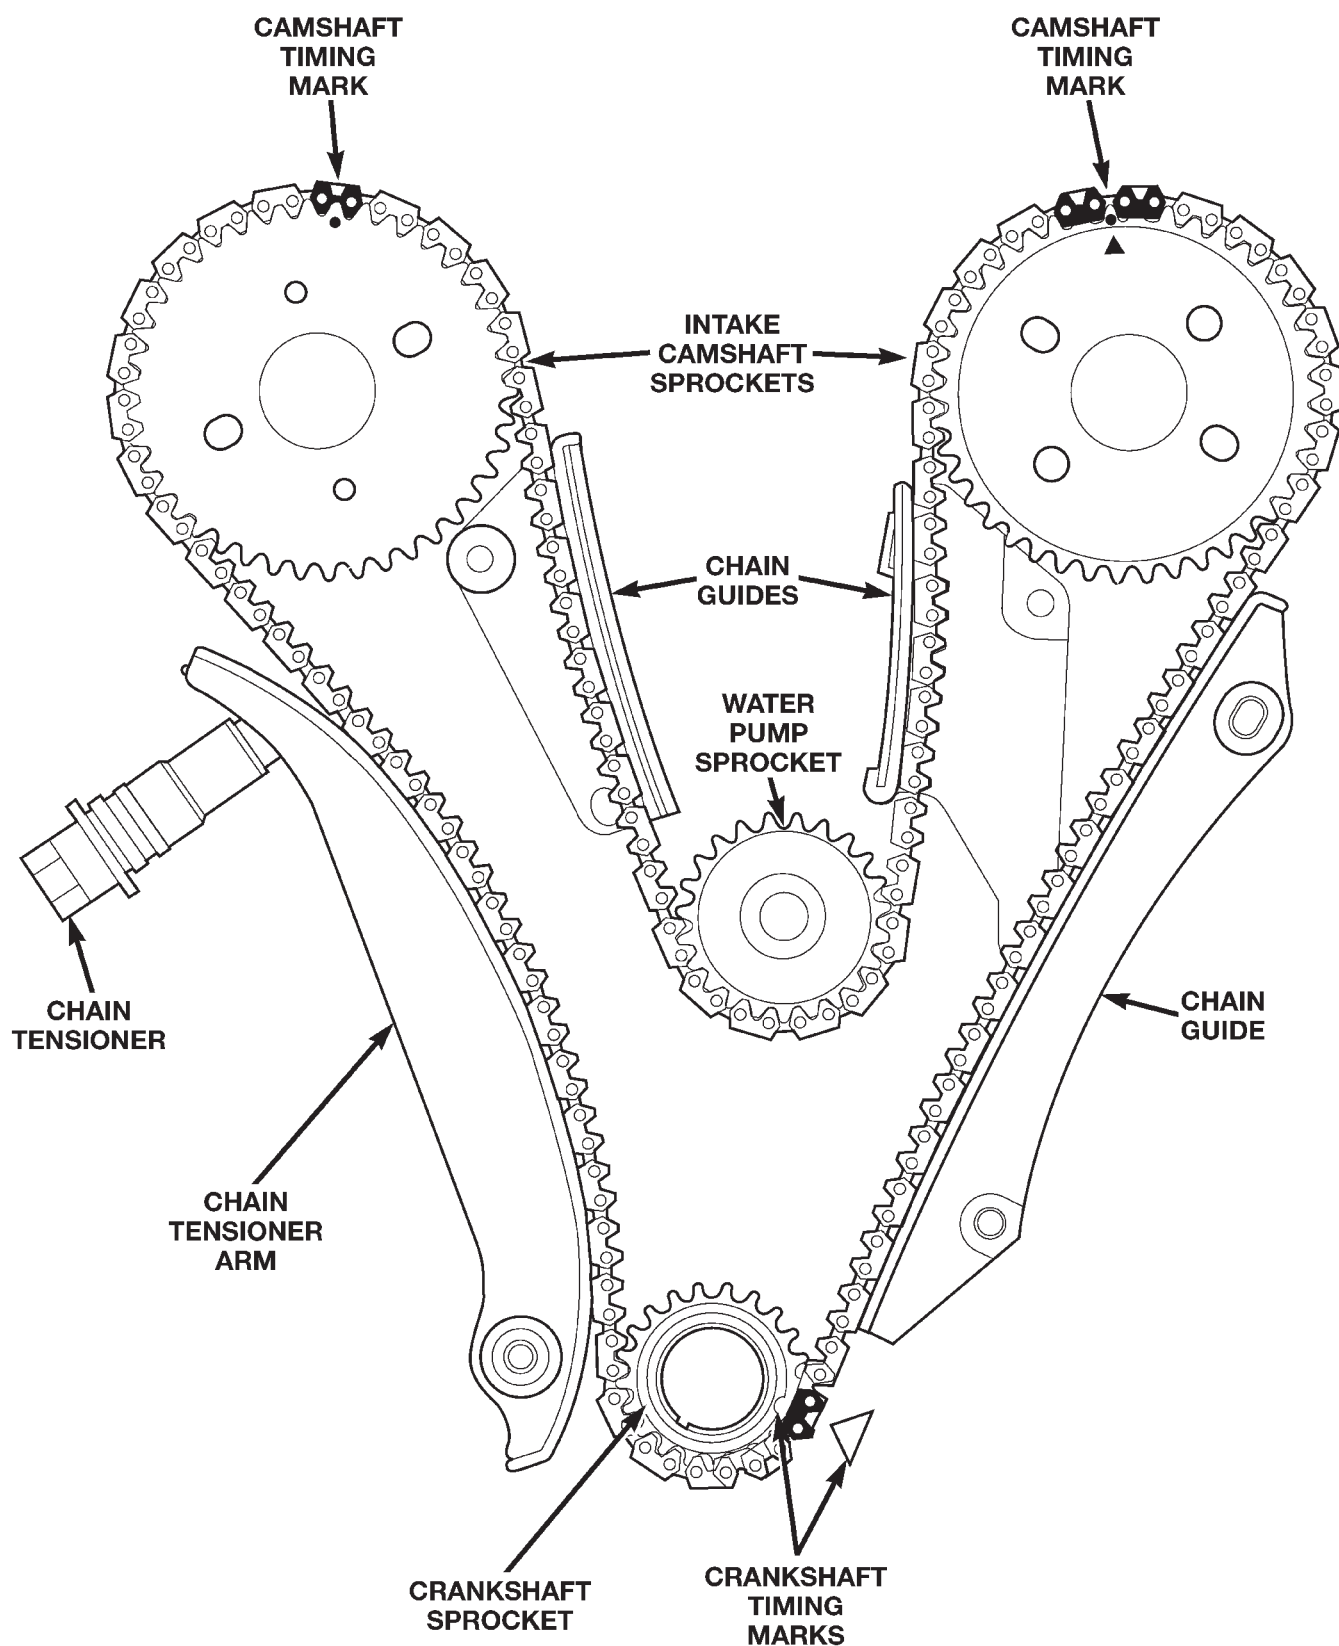

Fig. 55 Primary Timing Chain Marks
(1) Align crankshaft sprocket timing mark to the mark on oil pump housing (Fig. 55).
(2) Place left side primary chain sprocket onto the chain so that the timing mark is located in-between the two plated links on chain (Fig. 55).
(3) Lower the primary chain with left side sprocket through the left cylinder head opening.
(4) Loosely position left side camshaft sprocket over camshaft hub.
(5) Align plated link to the crankshaft sprocket timing mark (Fig. 55).
(6) Position primary chain onto water pump drive sprocket.
(7) Align right camshaft sprocket timing mark to plated link on timing chain (Fig. 55) and loosely position over camshaft hub.
(8) Verify that all plated links are properly aligned to timing marks on all sprockets (Fig. 55).
(14) Starting at the right cylinder bank, insert a 3/8" square drive extension with a breaker bar into intake camshaft drive hub. Rotate camshaft until the camshaft hub aligns to the camshaft sprocket and damper attaching holes. Install the sprocket attaching bolts and tighten to 28 N·m (250 in. lbs.) (Fig. 55).
(15) Turn the left side camshaft by inserting a 3/8" square drive extension with a breaker bar into intake camshaft drive hub and rotate camshaft until the sprocket attaching bolts can be installed. Tighten sprocket bolts to 28 N·m (250 in. lbs.) (Fig. 55).